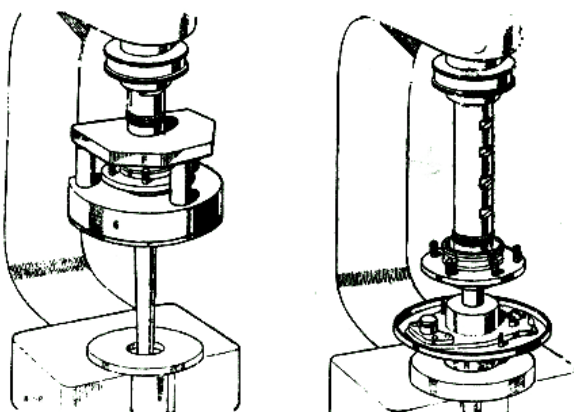

Fig. E-1—Stripping and assembling half-shaft.
1. Stand the axle shaft on its splined end and press down squarely on the brake anchor plate and bearing housing flange, using the special annular press block, Part No. 242415 (Fig. E-1). A pressure of up to 20 tons will be required, and it may be necessary to assist the operation with sharp blows on the bearing housing, using a brass drift. Remove the collar.
6. Place the securing collar over the axle shaft with the chamfer towards the splined end and press it on until it abuts the bearing. A pressure of at least 2½ tons will be required for this operation, as a suitable collar, with an interference fit of .0028 in. (0,07 mm) on the shaft, must be chosen by selective assembly. A suitable press block (Part No. 262757) is illustrated at Fig. E-1.